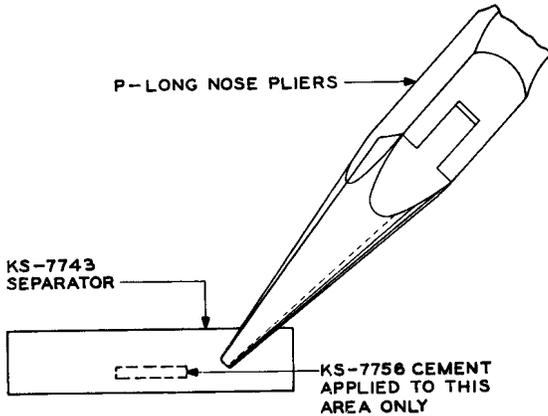
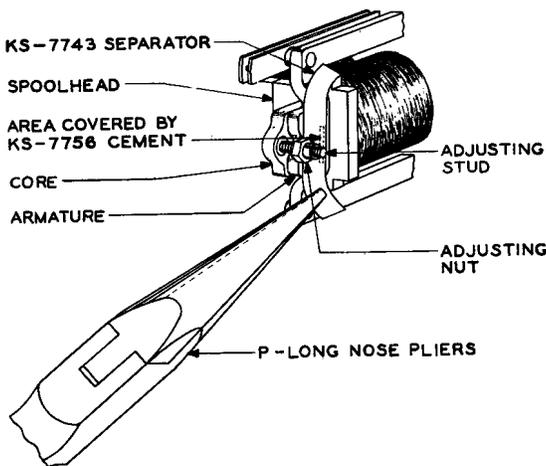

Fig. 13 - Application of Cement to KS-7743 Separator
Fig. 14 - Application of KS-7743 Separator to Relay
- (1) Cut off a strip of the KS-7743 separator approximately 1-1/2 inches long. Dip the pointed end of a clean toothpick approximately 1/8 inch into the KS-7756 cement and wipe off the excess cement on the inside of the container. The cement remaining on the toothpick should not be sufficient to form a drop. Place the strip of separator on a flat surface and make a line of the cement with the toothpick approximately 3/8 inch long and 1/32 inch wide along one edge of the separator near the center as indicated in Fig. 13. Exercise care to use the cement sparingly as it spreads when the separator is applied to the armature. Excess cement will result in the spreading of the cement under the adjusting nut. Keep the container covered
(2) Using the P-long-nose pliers grasp one end of the separator as indicated in Fig. 13, operate the relay using the KS-6320 orange stick and while holding the relay operated place the separator in position on the back of the armature as indicated in Fig. 14 so that the surface of the separator to which the cement is applied rests against the armature near the spoolhead. Position the separator so that the front end extends well under the adjusting nut as indicated in Fig. 14 taking care that it is not so far forward that it touches the